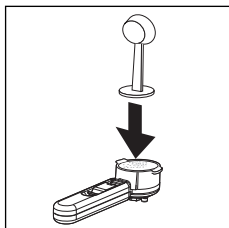

fig. 9
2. Distribute the ground coffee evenly and press it quite firmly with the coffee tamper (Fig. 9).